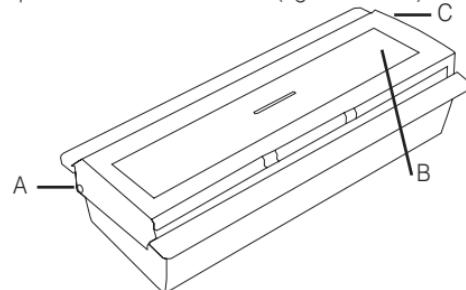

Figure 1: Doorbell-pushbutton
- a) Place the doorbell pushbutton in such a way on the work surface that the two rotation axes of the transparent plastic face are at the rear (fig. 1 A and C).
- b) Using a pointed object (e.g. pen) carefully press now the small pin on the left side (fig. 1 A).
- c) Now you should be able to push up and remove the transparent plastic face (fig. 1 A).
- d) You can now open the small screw (fig. 1 B) using a small Phillips screwdriver and remove the front of the doorbell pushbutton behind which there is the PCB with the battery.
- b) Before assembling ensure that the small screw (fig. 1 B) can grip at the right spot. If required turn one part of the housing by 180°. Please make sure that the rubber gasket sits correctly within the housing.